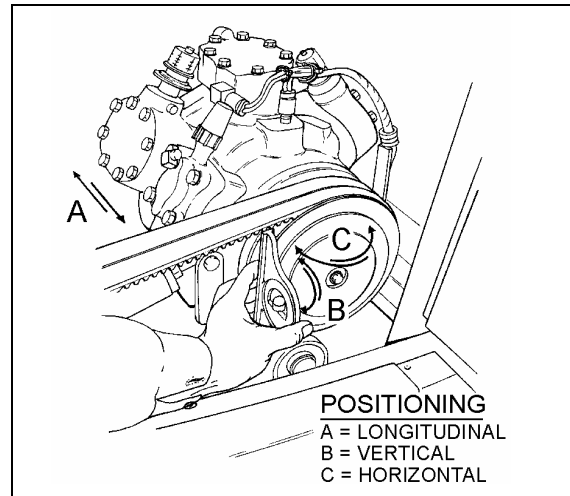

FIGURE 18: COMPRESSOR ALIGNMENT
1. Rest an extremity of a straight edge of approximately 46 inches (117 cm) against the upper part of the outer face of crankshaft pulley, positioning the other end close to the compressor clutch pulley (Figs. 18 & 19).
Rest a short "angle and level indicator" on the outer side face of the crankshaft pulley, adjust the level indicator inclination at 0° and check if the compressor pulley is at same angle (Figs. 18 & 19). If it is not the same, shim under the appropriate pillow block in order to obtain the correct angle.